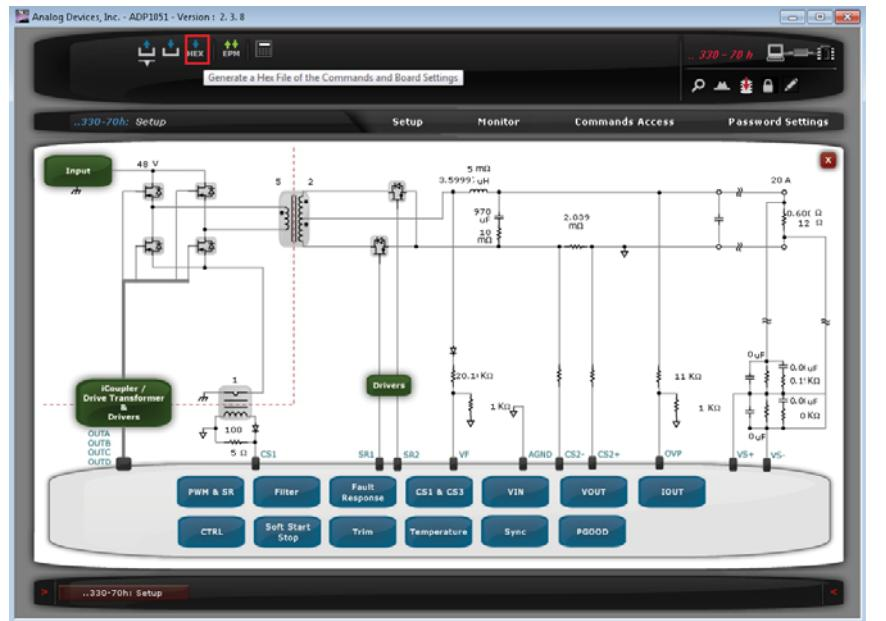

Figure 1. Analog Devices, Inc. – ADP1051 – Version: 2.3.8: Generating a HEX File
- After the chip password is unlocked, click **Generate a Hex File of the Commands and Board Settings** in the GUI software, as shown in Figure 1. By clicking this button, all user settings, including the user command settings and board settings, are stored in a HEX file. Indicate the folder where this HEX file is to be saved when the appropriate window appears.